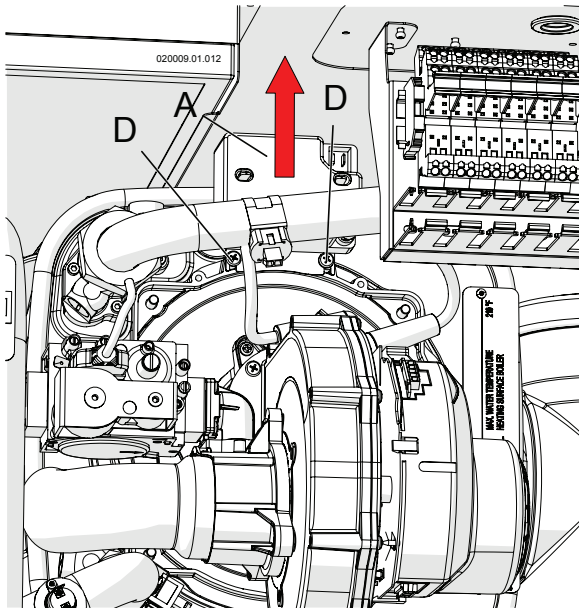

Figure 17-2 - Spark generator disassembly
- 3.- disassemble spark generator "A" in figure 17-2, unscrewing screws "D" in figure 17-2 and disconnecting it from the ignition glow plugs.